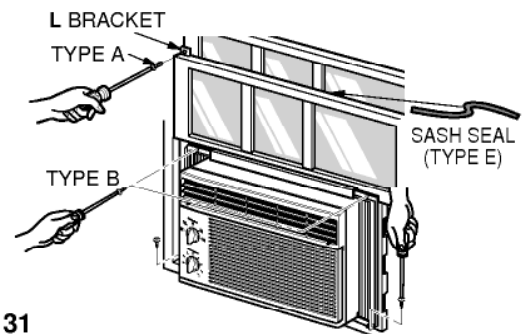

Figure 31
Extend the guide panels (TYPE F) to fill the window opening using 4 screws (TYPE B) to secure them, as shown in Fig. 31.
- a. Cut the sash seal (TYPE E) to the window width. Stuff the sash seal between the glass and the window to prevent air and insects from getting into the room, as shown in Fig. 31.
- b. Fasten the L bracket using a (TYPE A) screw, as shown in Fig. 31.